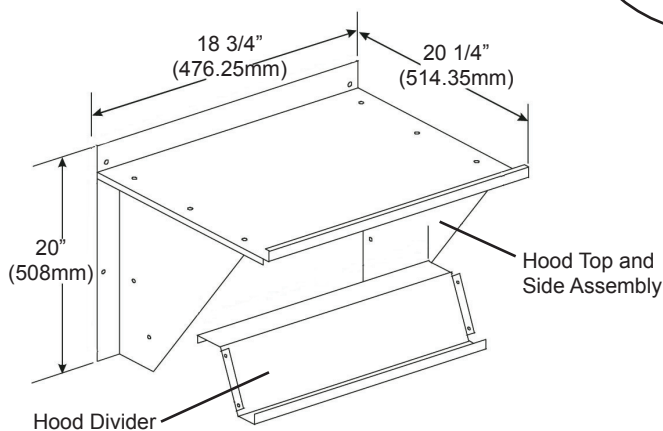

Fig. 4 - Hood Assembly
10. Remove the hood parts from the economizer package. Assemble as shown in Fig. 4 by screwing together with provided #10 x 5/8" screws.